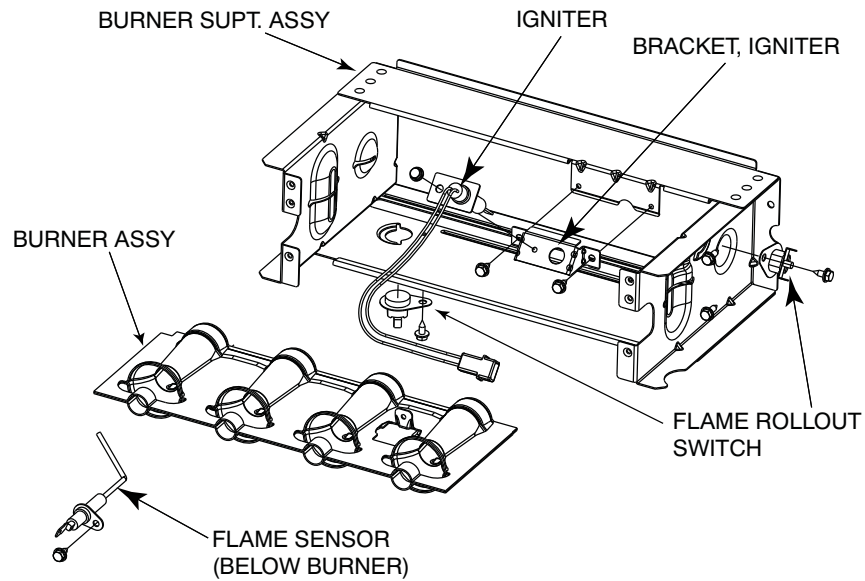

Fig. 69 – Burner Assembly
6. Remove screws attaching burner assembly to cell panel. See Fig. 69.